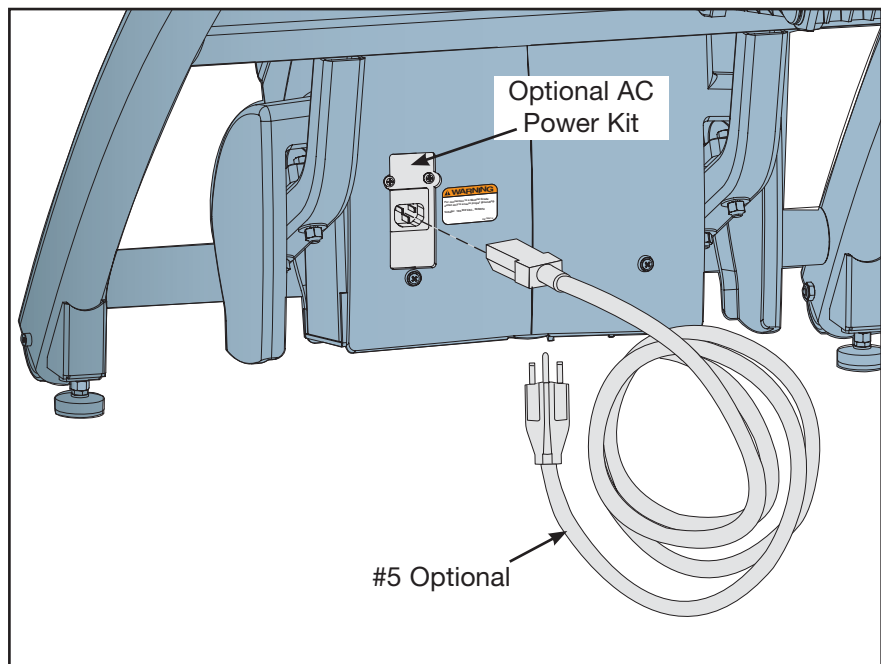

Figure 10
- A. Plug the optional power cord (#5) into the inlet. **NOTE:** Do not plug the power cord into an outlet at this time. See Figure 10.